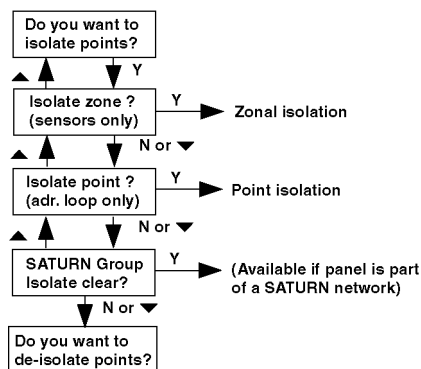

Fig. 8 'MINERVA' Controller - Isolate Menu
- 1) Select the 'Isolate' option from the Main Menu. The menu shown in Fig. 8 will be displayed. The menu options are selected as described in section 3.4.1, or